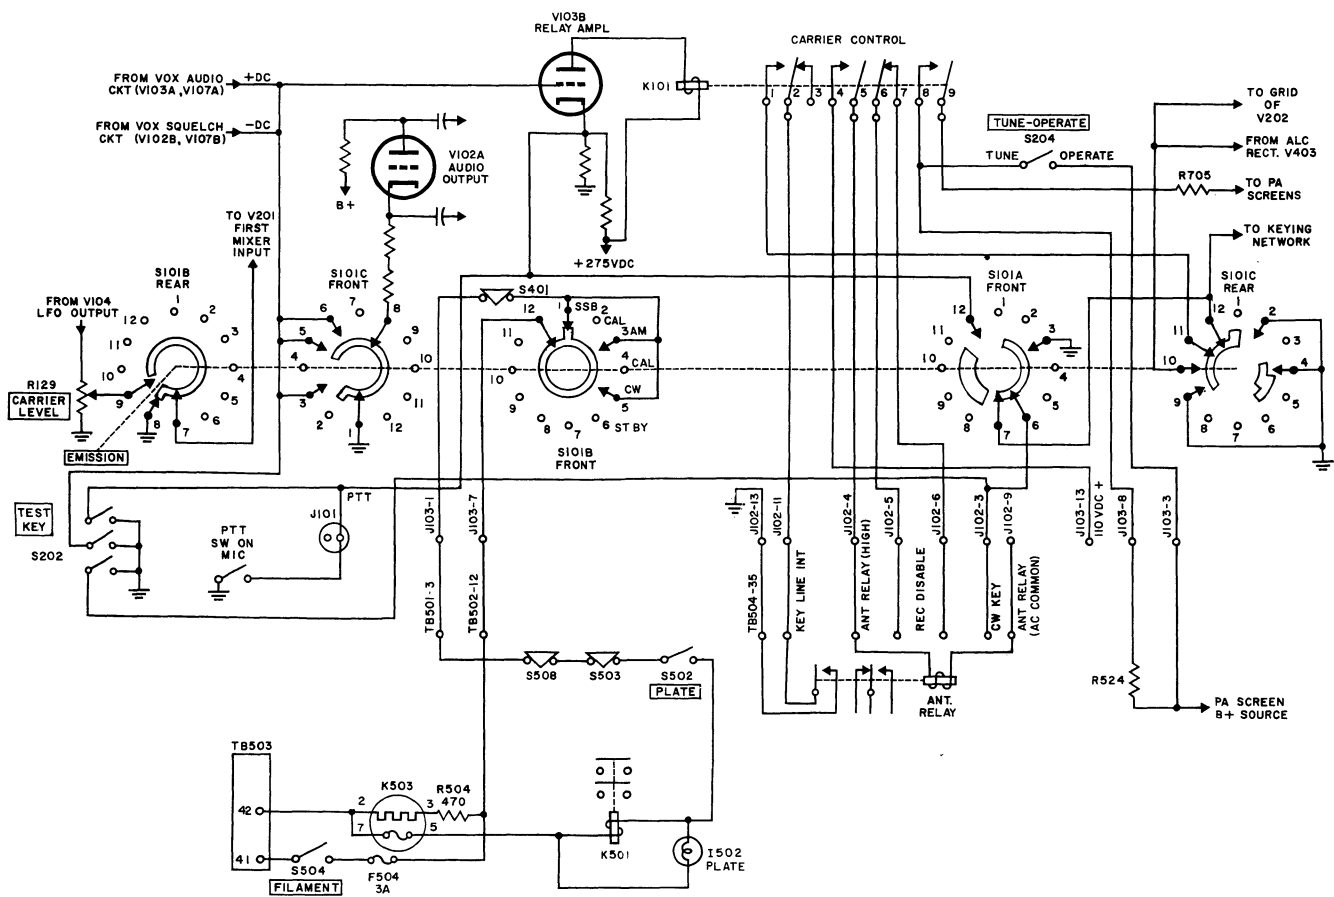

Figure 4-19. Control Circuits, Simplified Schematic Diagram
4.2.3.1. GENERAL. The carrier control circuits are shown in figure 4-19. All filaments and the entire low voltage supply are energized upon closing FILAMENT switch S504. Assuming that the contacts of time relay K503 are closed, the circuit to close plate contactor K501 is from S504 through S101B (front), S401, S508, S503, PLATE switch S502, the coil of plate contactor K501, K503 to TB503 terminal 42. Notice that EMISSION switch S101B (front) opens the circuit in CAL and STBY positions.
Refer to figure 4-19. The following control functions take place at the various positions of the EMISSION selector switch. S101.